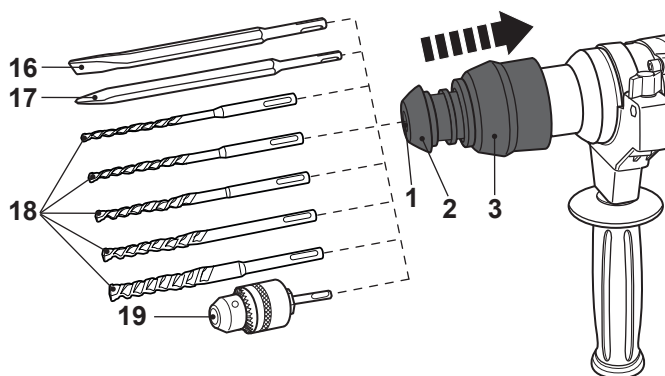

Fig. 1
- > Pull the chuck sleeve (3) back and hold it in position.
- > Insert the SDS drill bit / chisel with a twist motion all the way to the stop into the chuck (1) (Fig. 1).
**NOTE:** When inserting the drill bit / chisel, take care that the dust protection cap (2) is not damaged. Have a damaged dust protection cap replaced by a qualified specialist.